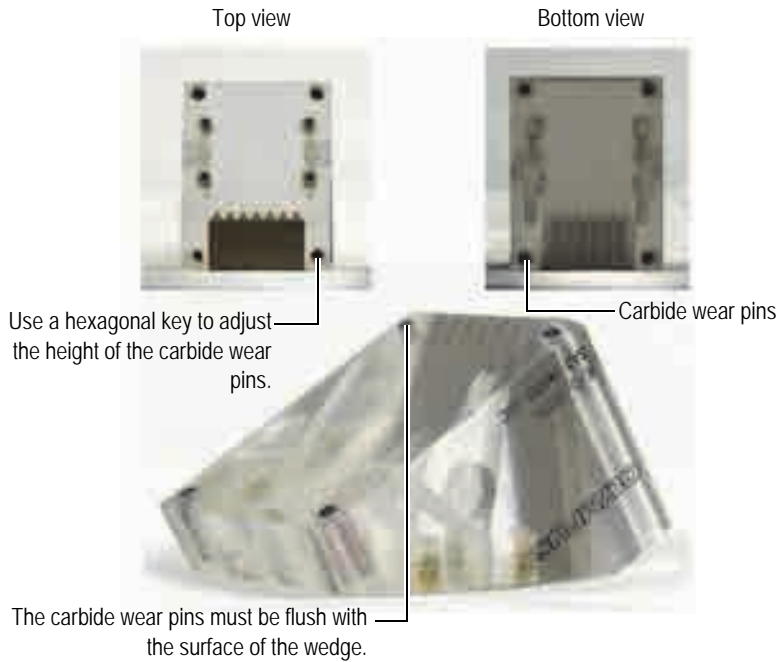

Figure 7-2 Adjusting the wedge's carbide wear pins
Wedges are designed to hold a transducer or a phased array probe in order to ensure an adequate ultrasonic diffusion through the surface being inspected, and to direct the couplant flow correctly. To limit wear to the wedge, carbide wear-pins can be inserted at each corner of the contact surface of the wedge (see Figure 7-2 on page 78).
2. Use a hexagonal key to adjust the height of the carbide wear pins on each installed wedge. Ensure that the top of each pin is flush to the surface of the wedge (see Figure 7-2 on page 78).